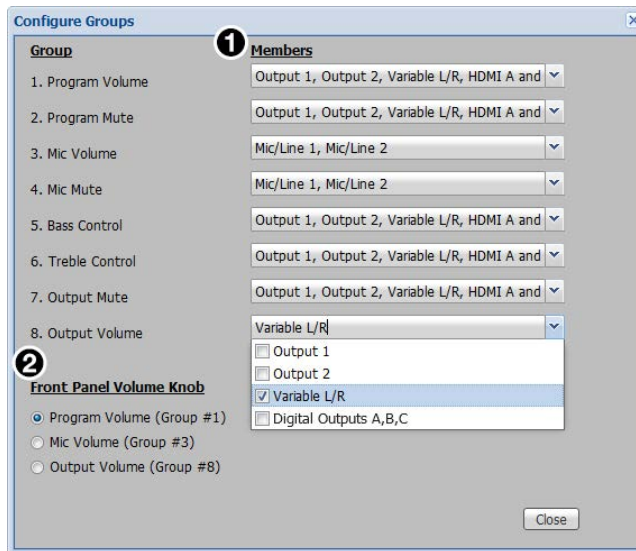

Figure 78. Configure Groups Dialog Box
3. For the desired group master, click the corresponding drop-down menu (see figure 78, **1**) to display a list of available group members.
3. From the Front Panel Volume Knob list (see figure 78, **2**), select the desired volume control the front panel volume knob adjusts. The available options are: